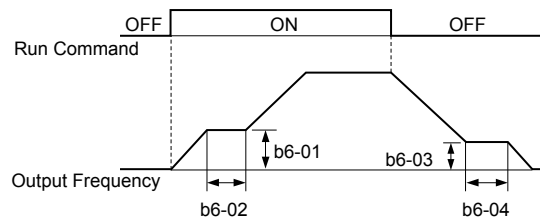

Figure 5.28 Dwell Function at Start and Stop
**Figure 5.28** illustrates how the Dwell function works.